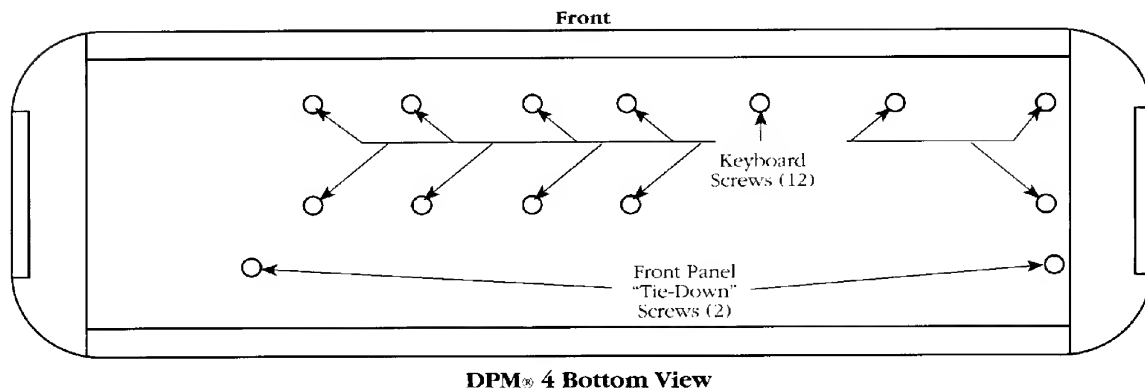

Figure 1
3. Turn the unit off and disconnect it from the AC mains power (unplug it from the wall). On a flat, protected working surface (static-free), turn the unit over on its front panel. You will need a Phillips-head screwdriver to remove the two screws holding the front panel down and the twelve screws holding the keybed in place. Refer to *Figure 1* for screw locations. *Make sure the keybed is supported when you turn the unit right side up.*